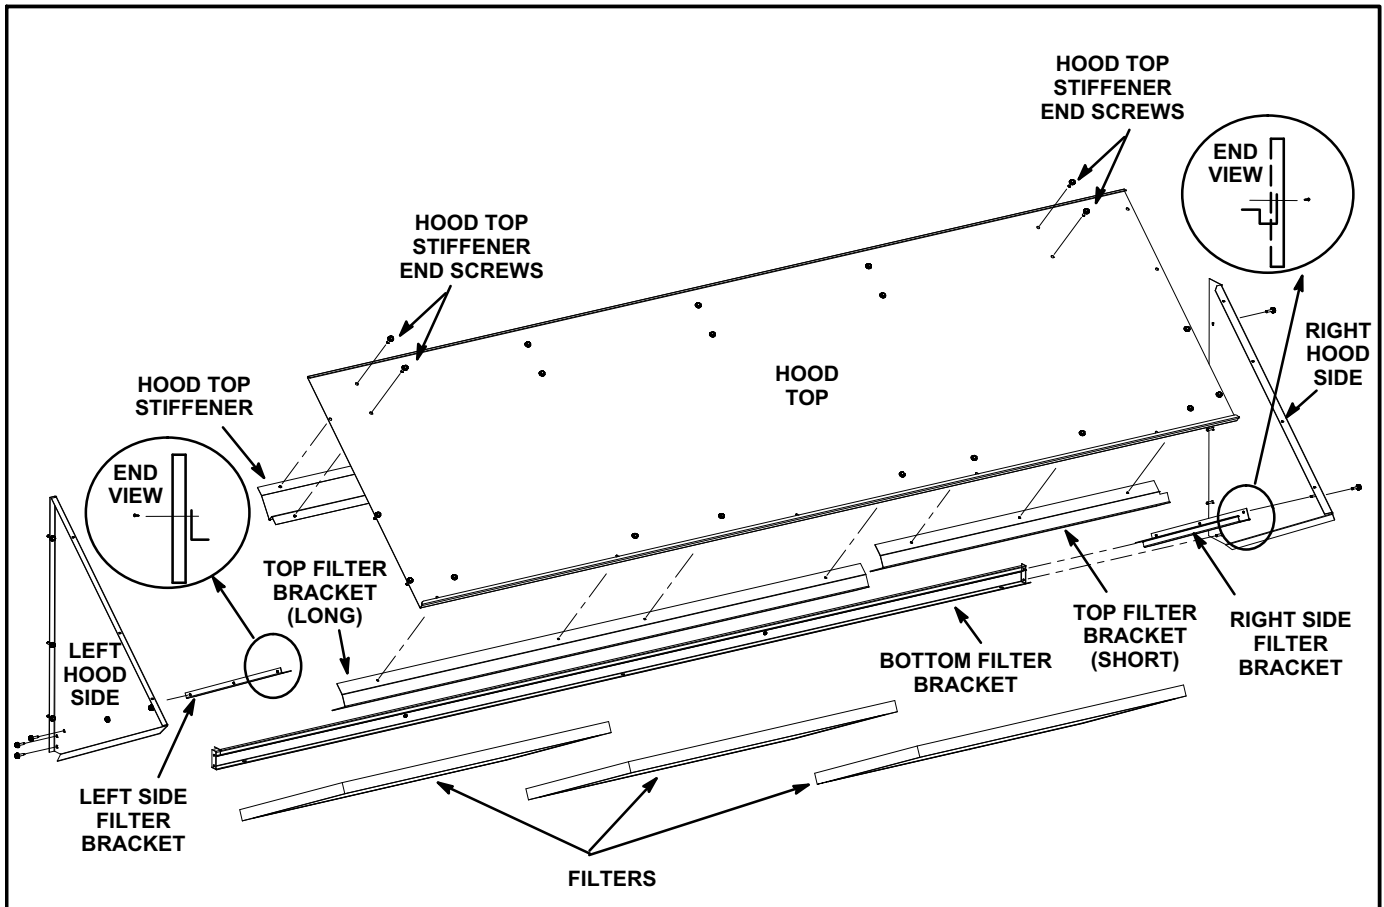

FIGURE 24
- 8- Install L-shaped left side filter bracket to left hood side. See figure 24.
- 10- Install the right side filter bracket to the right hood side. See figure 24.